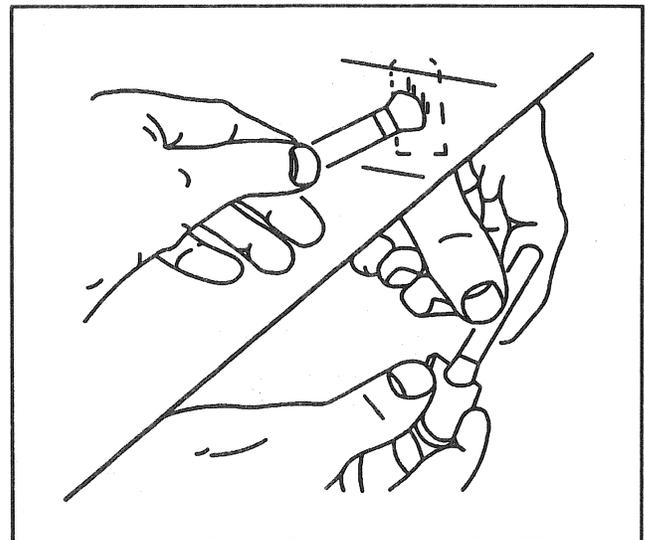

Figure 5—Applying the Activator
Install or Connect (Figures 5 and 6)
1. Apply a generous amount of activator to the mounting surface of the mirror button and windshield where the button is to be positioned. Allow the activator to dry for five minutes. **DO NOT TOUCH** the mounting surface of the button or the glass (Figure 5).